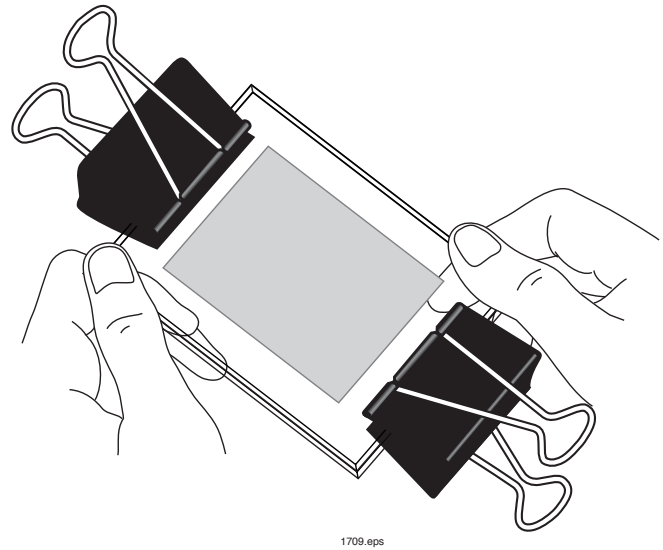

Figure 10. Mounting the film.
3. Place the film between the two glass plates (keeping track of the emulsion side) and secure it in place with the two binder clips as shown in Figure 10.